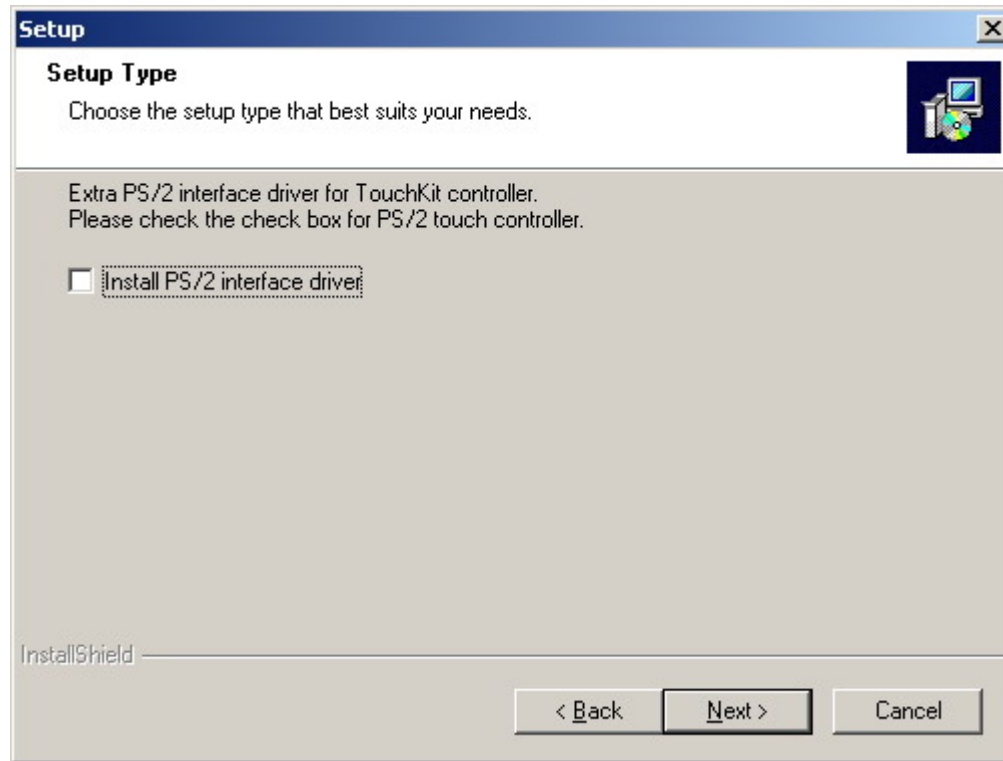

Figure C-4: Install PS/2 Interface Driver
Step 9: An Install PS/2 interface driver screen appears (**Figure C-4**). It is not necessary to install the PS/2 interface driver. To continue click **NEXT**.